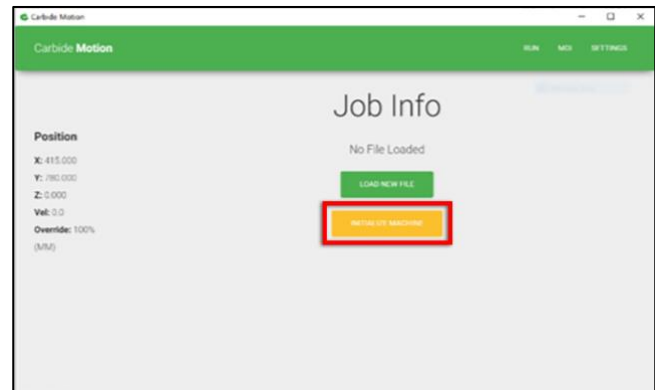

Figure 15
3. After the software connects, click the **Initialize Machine** button. This will begin a homing cycle. See *Figure 15*.